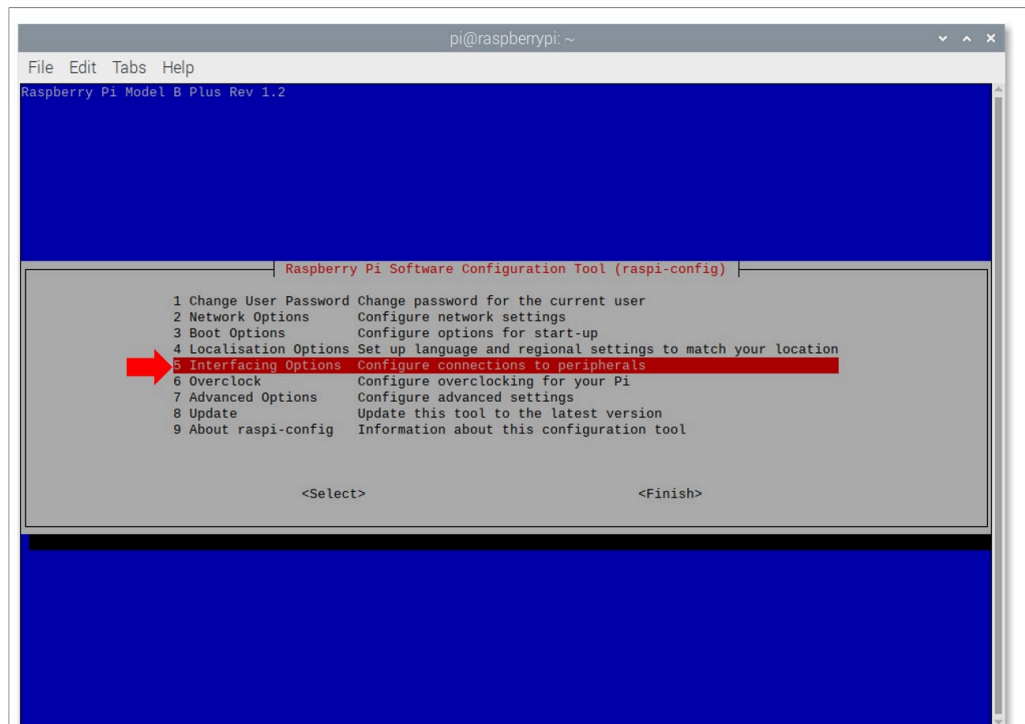

Figure 6. Enable I²C interface
3. Use the up and down arrow keys to select the 5th menu entry (Interfacing Options) and then press Enter, as shown in Figure 6: